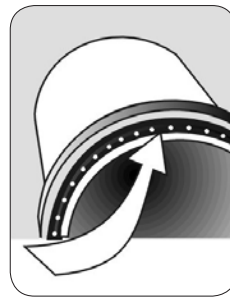

Figure 10
- Reassemble the filter cover and tighten the clamp (Figure 10, 11).